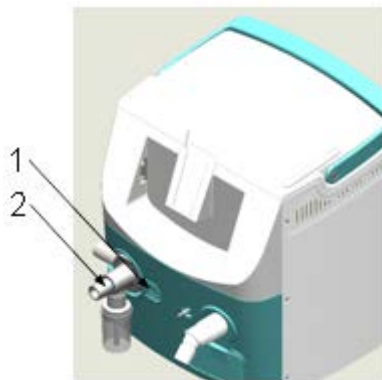

Figure 8-1
- b. Pull out the expiratory valve core component (2 in Figure 8-1, Figure8- 2);
- c. Use a suitable tool (such as end cover tooling) to remove the end cover(3) and the gasket (4);
- e. Rotate the water trap (7), then pull it out.